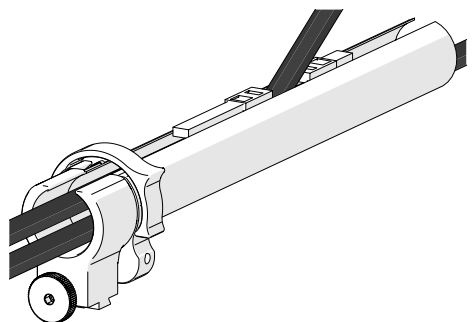

Fig. 72 - Flexibility
4. When necessary, the two zippers may be opened to allow cables to exit the tube anywhere between the ends (Fig. 72).